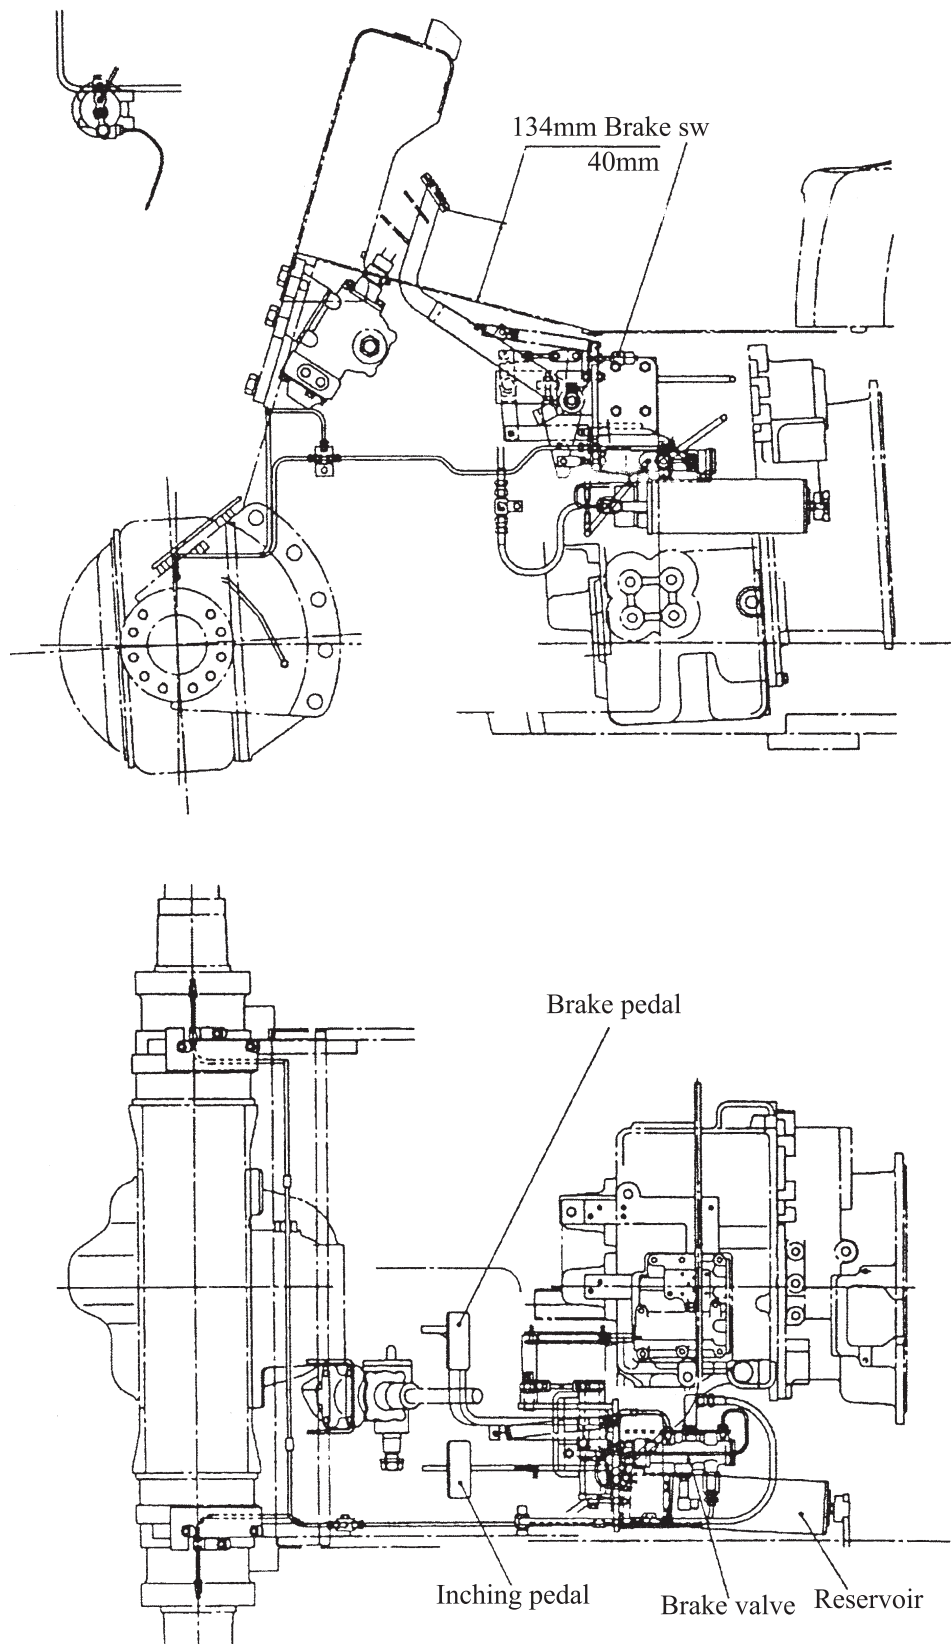

Fig.5-2 Brake pedal unit
5.2.1 Brake pedal device (See Fig. 5-2)